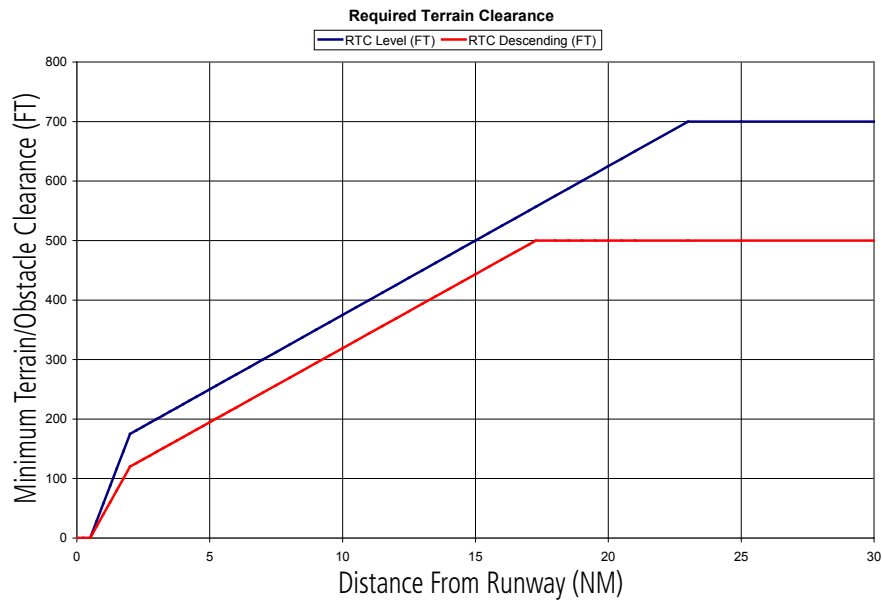

Figure 6-132 FLTA Alert Minimum Terrain and Obstacle Clearance Values
**Reduced Required Terrain Clearance (RTC)** and **Reduced Required Obstacle Clearance (ROC)** alerts are issued when the aircraft flight path is above terrain, yet is projected to come within the minimum clearance values in Figure 6-132. When an RTC alert is issued, a potential impact point is displayed on the Terrain-SVS Page.
**Imminent Terrain Impact (ITI)** and **Imminent Obstacle Impact (IOI)** alerts are issued when the aircraft is below the elevation of a terrain or obstacle cell in the aircraft’s projected path. ITI and IOI alerts are accompanied by a potential impact point displayed on the Terrain-SVS Page. The alert is annunciated when the projected vertical flight path is calculated to come within minimum clearance altitudes in Figure 6-132.